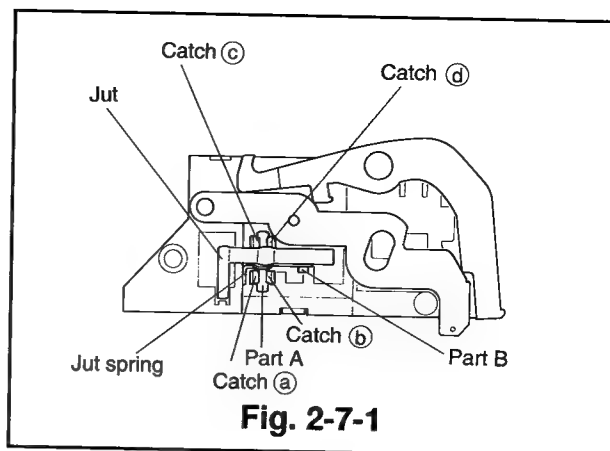

Fig. 2-7-1
- ① Follow the removal method in Items ① to ⑥ of Para. 2-6.
- ② Unfasten the four catches (a, b, c and d) shown in Fig. 2-7-1 to remove the jut and the jut spring.
- ① Install the jut and the jut spring as shown in Fig. 2-7-1. (Insert the jut spring into the part A of the jut before installing the jut. Hook one end of the jut spring with the outside of the catch (a) and the other end with part B of the jut.)
- ② Install the bottom plate according to the installation method in ③ of Para. 2-6.
- ③ Follow the installation method in Item ⑤ to ⑧ in Para. 2-2.